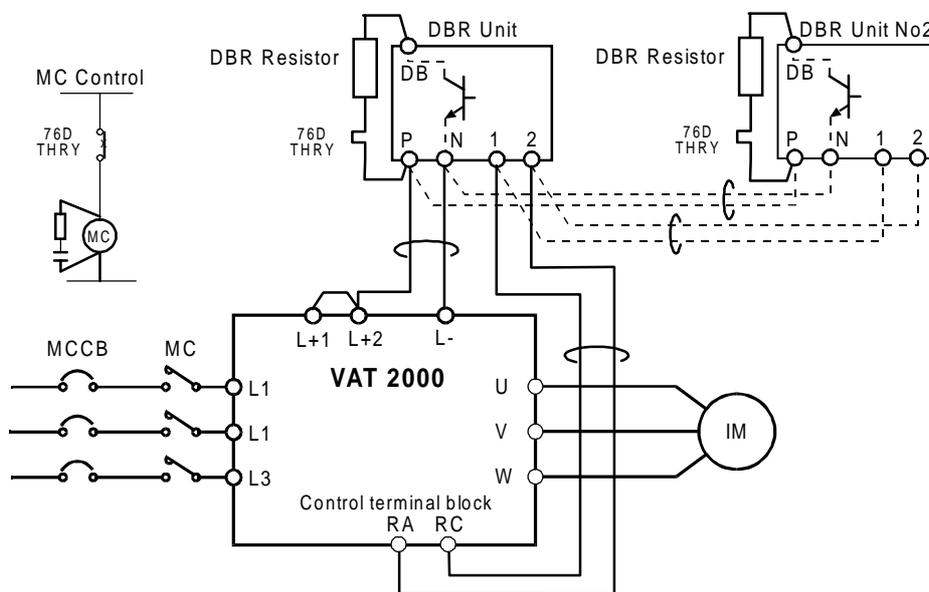

Fig 7-5
1. When carrying out dynamic braking with the a VAT2000 larger than U2KX55K0S, connect the Braking module UADOPTDBUHO as shown in Fig 7-5. This module should be used at 10% ED or less as shown in Fig 7-2. One or two units in parallel can be used.